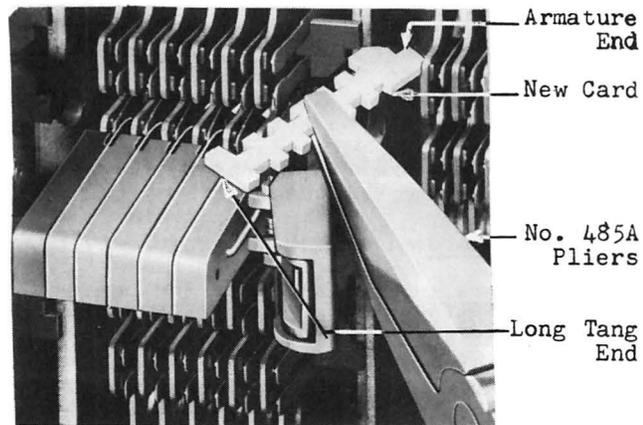

Fig. 8 - Grasping a New Card for Replacement
3.25 Replacing a Card: Grasp a new card near the center with the No. 485A pliers with the armature end of the card toward the right and the long tang in a direction away from the pliers, as shown in Fig. 8.